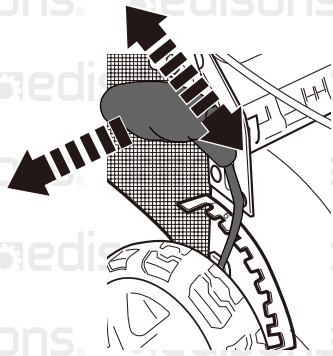

Fig. 8
1. Pull the lever (22) towards the wheel, then move it forward or backward to adjust the cutting height (Fig. 8).